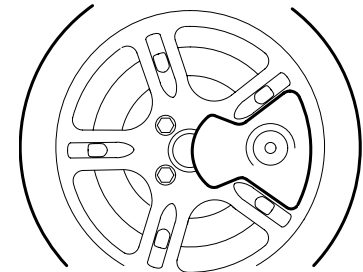

Fig. 10
- The AI-Ko Secure is now fitted. (Fig. 10)